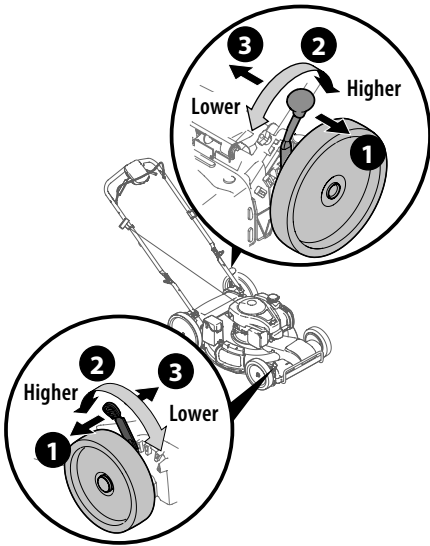

Figure 17
**NOTE:** The front cutting height adjustment lever is located above the right front wheel. The rear cutting height adjustment lever is located above the left rear wheel (Figure 17).